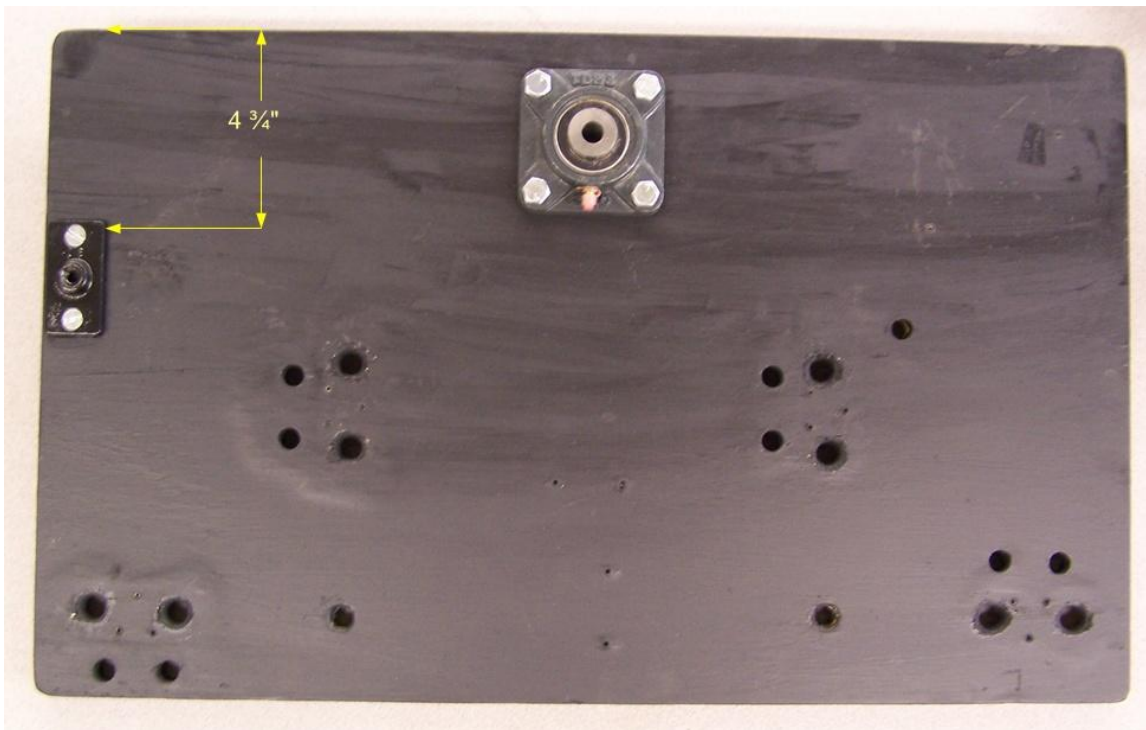

Figure 2: Swing Cylinder Mounting Plate Location
The swing cylinder mounting plate (35) holes can also be drilled using the bracket as a template. The holes for the plate need to be drilled using a 1/4" bit. The location can be seen in Figure 2 and again must be the same distance.
At this point the two bearings can be mounted using bolts (31), washers (50), and nuts (49). The swing cylinder mounting plate can be attached using bolts (36), lock nuts (47), and washers (48). Refer to Figure 2 above.